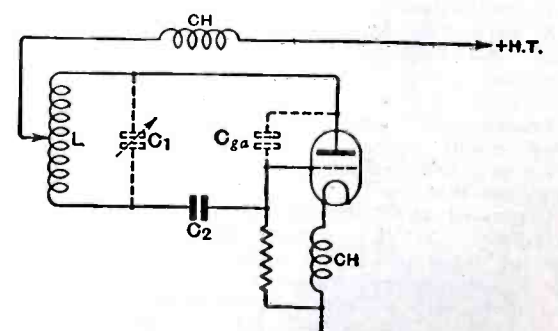
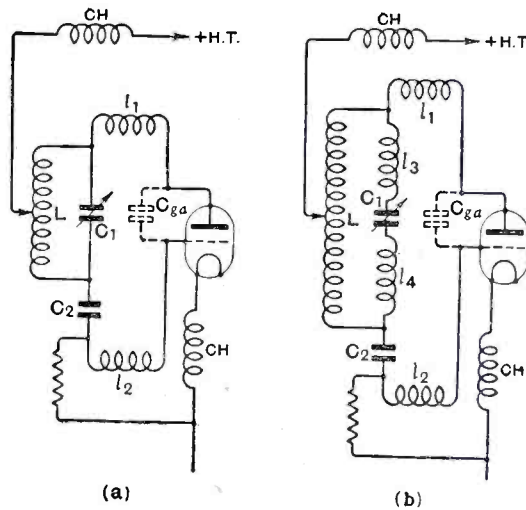

Fig. 1.—The first oscillator circuit tried by the author.
Fig. 2—Two of the oscillator circuits discussed by the author in the text but discarded for reasons mentioned in the article.
The first circuit tried was the popular one (at least for short waves) shown in Fig. 1. This circuit is usually satisfactory (with standard valves) when
we simply wish to work on a single frequency, and if the circuit capacity consists only of the grid-anode capacity of the valve, *i.e.*, if the capacity " C_1 " in Fig. 1 is omitted. The capacity " C_2 " is not important so long as it is much larger than " C_{ga} ."
Thus, when we connect " C_1 " in Fig. 1, to work as a tuning control, whilst we fondly imagine that we are still using (1) the circuit shown in Fig. 1 (with " C_1 " added) we are in reality using one or the other of the circuits shown in Fig. 2 (a) or (b). Here " l_1 " and " l_2 " represent the inductances formed by the internal connections to the electrodes of the valve, and " l_3 " and " l_4 " the inductances formed by the leads used to connect " C_1 " (including the inductance of " C_1 " itself, which may be by no means negligible, at these frequencies). This arrangement leads to all sorts of troubles (including that of sudden changes of frequency as " C_1 " is varied).